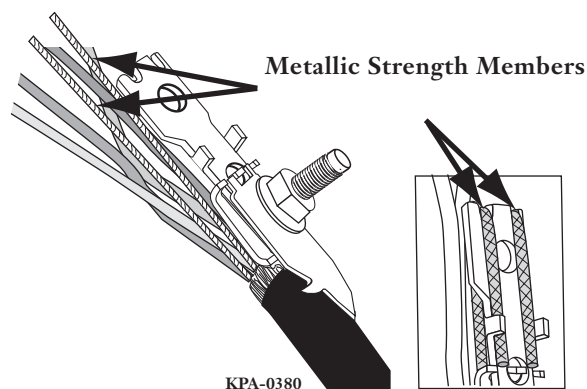

Figure 7 — Metallic Strength Member Strain-relief
- Step 1** Bend them over the slots in the extension bracket as shown in the inset in Figure 7 and then trim excess strength member.